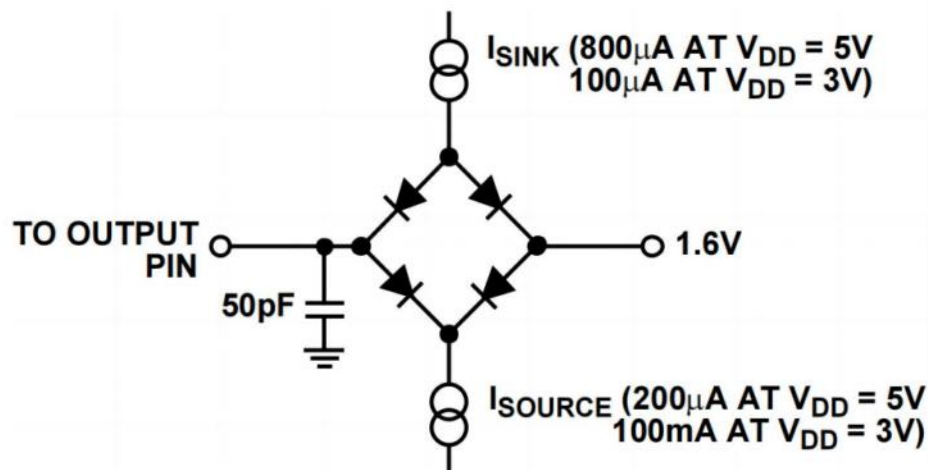

Figure 2. Load Circuit for Access Time and Bus Relinquish Time
- 5 These numbers are measured with the load circuit of Figure 2 and defined as the time required for the output to cross the  $V_{OL}$  or  $V_{OH}$  limits.
- 6 These numbers are derived from the measured time taken by the data output to change 0.5 V when loaded with the circuit of Figure 2. The measured number is then extrapolated back to remove effects of charging or discharging the 50 pF capacitor. This means that the times quoted in the timing characteristics are the true bus relinquish times of the part and as such are independent of external bus loading capacitances.